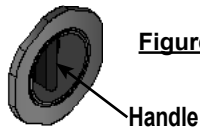
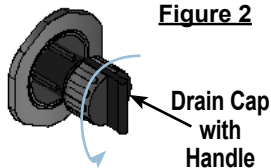
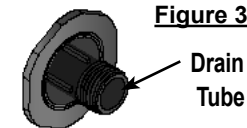

Figure 1
Figure 2
Figure 3
2. Locate the drain valves (bottom, lower right of control panel) for the exercise system. Pull on handle (Figure 1, pliers may be used to pull handle) until you reach the mid position then rotate handle slightly to fully extended drain tube (drain cap and 1" (2.5 cm) of the drain tube is exposed) (Figure 2) then remove the drain cap (Figure 3).
5. Pull and remove garden hose, replace drain cap and push drain tube back into exercise system as seen in Figure 1.